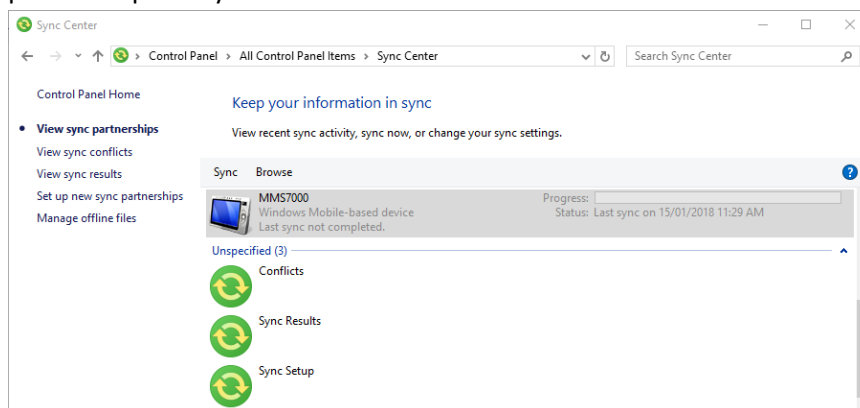

Figure 1: How to Hard Reset your MMS7000 device
2. Reset the MMS7000 by pressing and holding both the power button and the corresponding button on the other side of the keypad (see Figure 1: How to Hard Reset your MMS7000 device, below) for ~3 seconds until the display turns white, then release the buttons and waiting for the reboot process to complete. The Profiler App will automatically restart, and the Profiler should now be ready for use.